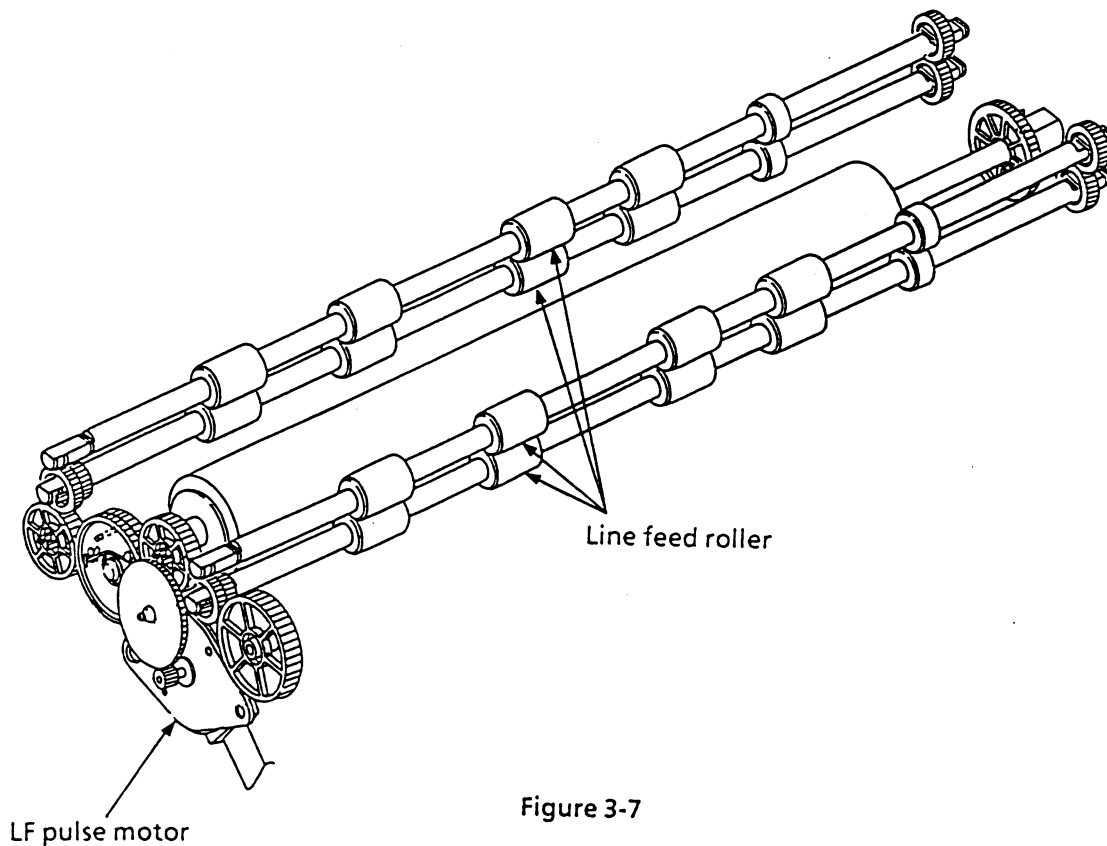

Figure 3-7
(1) Cut-sheet feed operation (See Figure 3-7.)